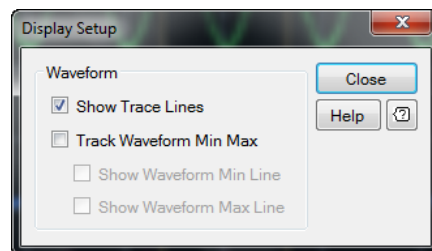

Figure 2-107 Display Setup dialog
- 2 The Display Setup dialog is displayed as shown in Figure 2-107.